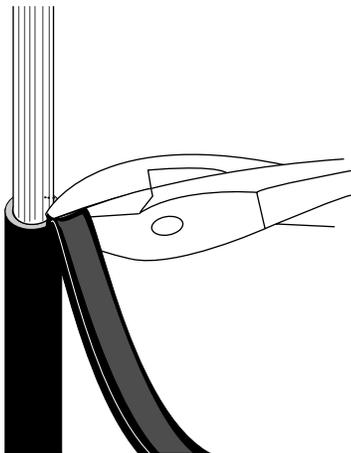

Figure 8
**4.12** At the ring cut, carefully flex the sheath and remove it. Side cutters may be helpful in removal (Figure 8).